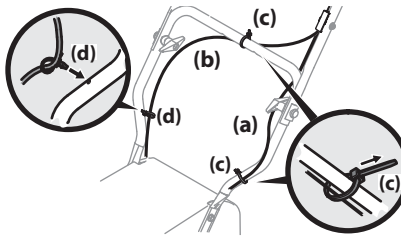

Figure 2-11
NOTE: The auger cable (a) routes down the left lower handle and the drive cable (b) is routed across the top of the lower handle and down the right side of the lower handle. See Figure 2-11.
5. Two cable ties (c) have been used to loosely tie the control cables to the lower handle, including the cable tie (c) you relocated in step 3. A push clip (d) is also included on the lower drive cable (b). Position cable ties (c) now, as in Figure 2-11, and tighten to secure cables (a & b) to the lower handle. Trim off excess material of cable ties (c). If not already installed, push the clip (d) on the drive cable (b) into the hole in the handle provided as shown in the left inset.